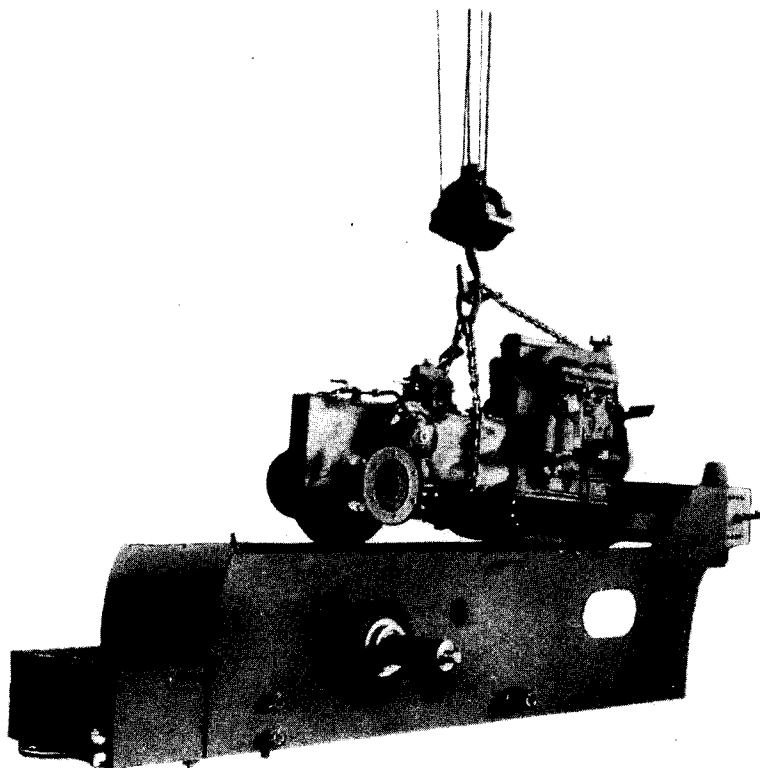

Fig. 15 - Removing Transmission And Engine From Frame
**B. REMOVE TRANSMISSION FROM ROLLER (Figure 15)**